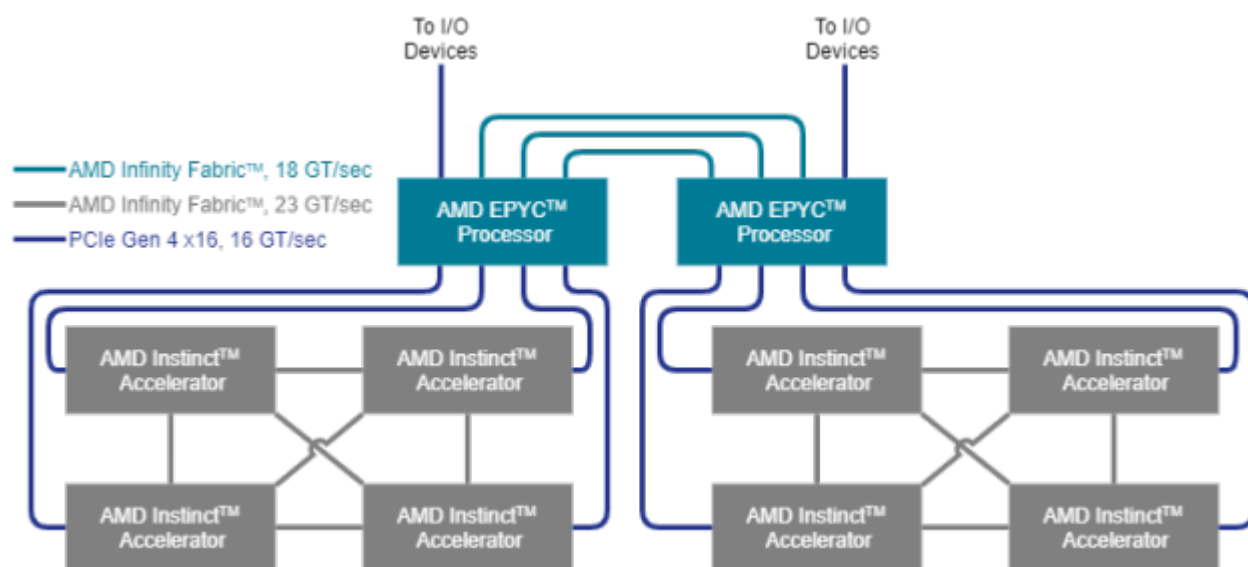
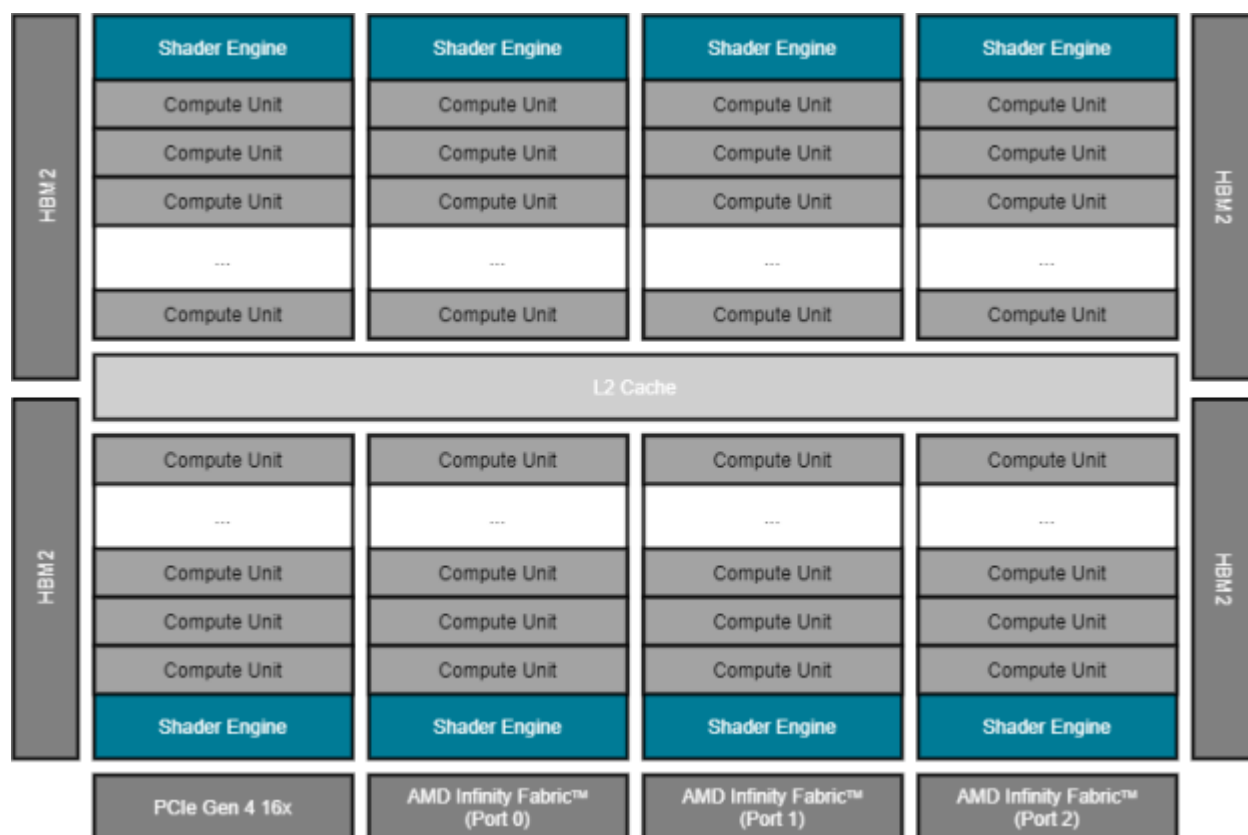

Fig. 29.4: Structure of a single GCD in the AMD Instinct MI250 accelerator.
Fig. 29.5: Structure of the AMD Instinct accelerator (MI100 generation).
Fig. 29.4 shows the node-level architecture of a system that comprises two AMD EPYC™ processors and (up to) eight AMD Instinct™ accelerators. The two EPYC processors are connected to each other with the AMD Infinity™ fabric which provides a high-bandwidth (up to 18 GT/sec) and coherent links such that each processor can access the available node memory as a single shared-memory domain in a non-uniform memory architecture (NUMA) fashion. In a 2P, or dual-socket, configuration, three AMD Infinity™ fabric links are available to connect the processors plus one PCIe Gen 4 x16 link per processor can attach additional I/O devices such as the host adapters for the network fabric.
Fig. 29.5 shows the AMD Instinct accelerator with its PCIe Gen 4 x16 link (16 GT/sec, at the bottom) that connects the GPU to (one of) the host processor(s). It also shows the three AMD Infinity Fabric ports that provide high-speed links (23 GT/sec, also at the bottom) to the other GPUs of the local hive as shown in Fig. 29.4.
The execution units of the GPU are depicted in Fig. 29.5 as Compute Units (CU). There are a total 120 compute units that are physically organized into eight Shader Engines (SE) with fifteen compute units per shader engine. Each compute unit is further sub-divided into four SIMD units that process SIMD instructions of 16 data elements per instruction. This enables the CU to process 64 data elements (a so-called ‘wavefront’) at a peak clock frequency of 1.5 GHz. Therefore, the theoretical maximum FP64 peak performance is 11.5 TFLOPS (4 [SIMD units] x 16 [elements per instruction] x 120 [CU] x 1.5 [GHz]).